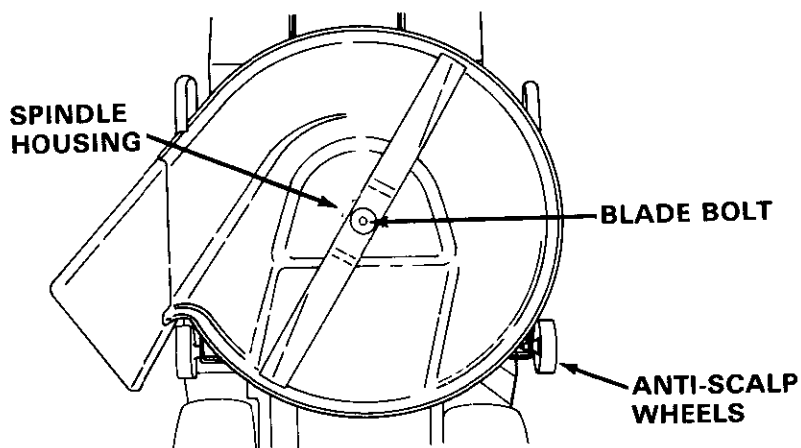

FIGURE 36
2. Remove grass wrappings from between spindle housing and blade mounting adaptor. (see figure 36)